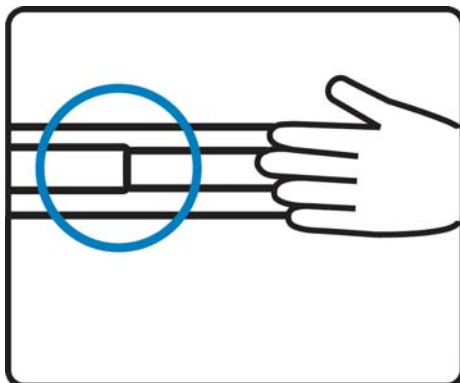

Figure 11
- Push the LCD keyboard drawer into the rack. (shown in **Figure 11**).